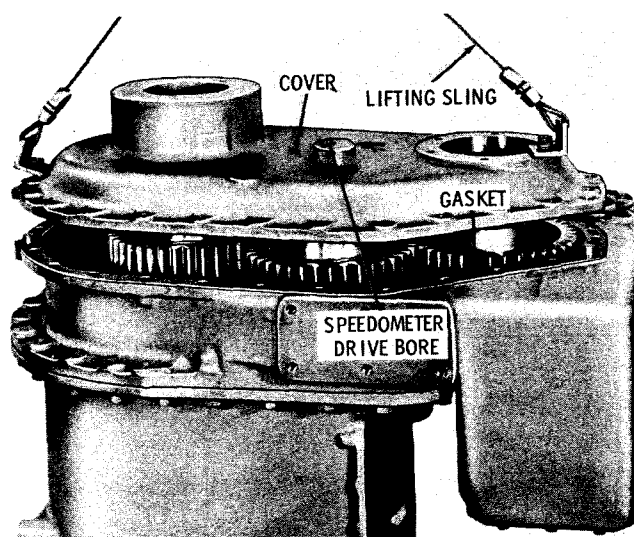

Fig. 5-88. Removing transfer gear housing cover
(10) Remove 26 (or 24 if automatic-electric) bolts and lockwashers from the transfer gear housing cover (fig. 5-88). Using a lifting sling, remove the cover and gasket. Tap the cover as it is